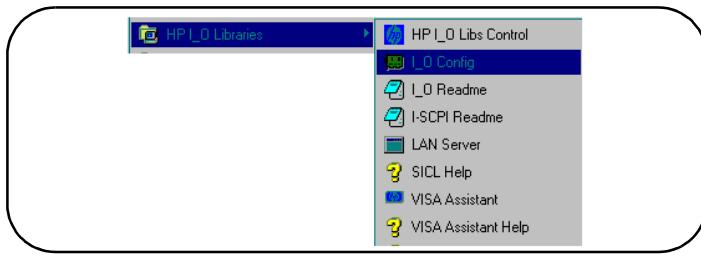
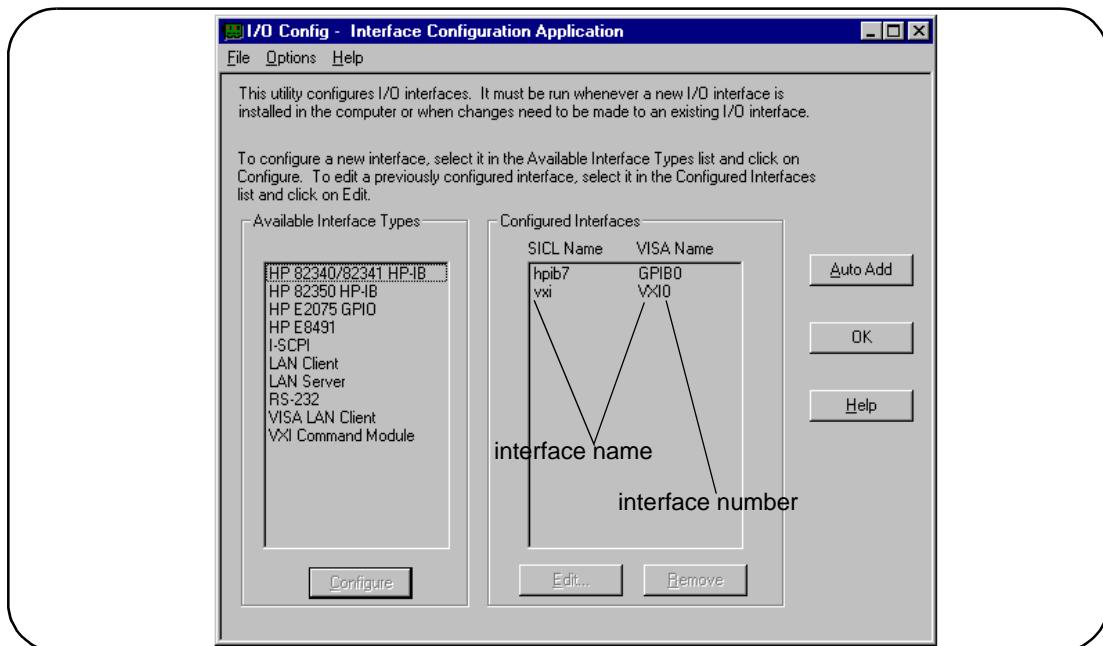
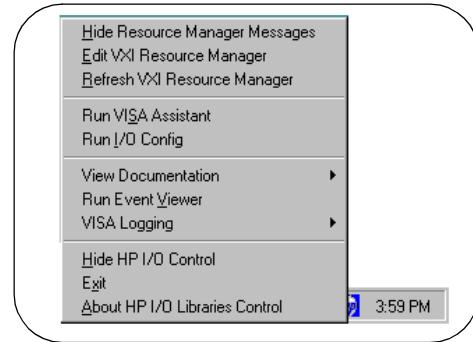

Figure 2-10. The HP I/O Libraries Program Group.
Figure 2-11. The HP I/O Libraries I/O Config Utility.
Figure 2-13. Editing Your Configuration on Windows 95 Platforms.
1. Connect the IEEE 1394 interface cable between the host adapter (PC) and one of the IEEE 1394 ports on the E8491B front panel.
3. From the HP I/O Libraries program group created when the libraries were installed (Start >> Programs >> HP I_O Libraries), click on ‘I_O Config’ (Figure 2-10).
An alternative is to click on the HP icon in the lower right-hand corner of your monitor which is placed there following the installation of the I/O Libraries and configuring the HP E8491B. Clicking on the HP icon brings up a pop-up menu like that shown in Figure 2-13. Click on “Run I/O Config”. Either method described in this step brings up a configuration window similar to Figure 2-11.
5. Figure 2-11 returns with the SICL Name and VISA Name inserted. Click OK to close the utility and complete the configuration.
When it is necessary to edit your configuration, click ‘I_O Config’ in the HP I/O Libraries program group (Figure 2-10). To edit the HP E8491B, click (highlight) the configured interface (“vxi VXI0”) in the utility (Figure 2-11). This activates the ‘Edit’ and ‘Remove’ buttons at the bottom of the window.
After installing the HP I/O Libraries and configuring the HP E8491B on the Windows 95 platform, an *hp* icon is placed in the bottom right corner of your PC monitor (Figure 2-13).
Runs the I/O Config utility and brings up the “I/O Config - Interface Configuration Application” window shown in figure 2-11.
2. Click on Start >> Programs >> I_O Config to bring up the I/O Config window (Figure 2-11).
- activated from the 'I/O Control' icon (see Figure 2-13)